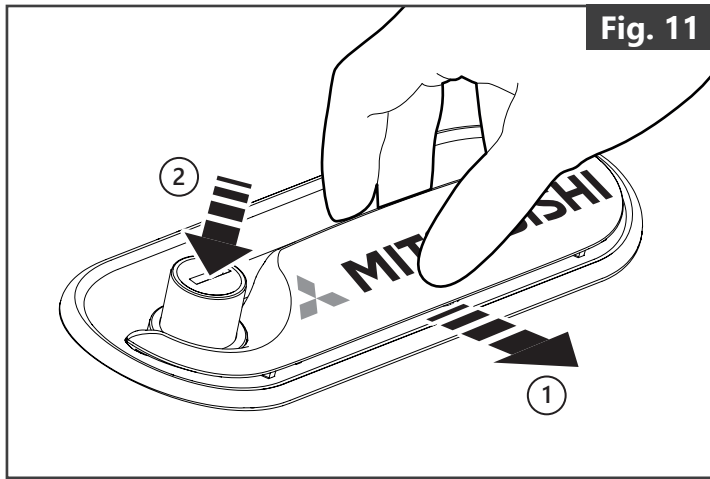

Fig. 11
- Pull back on the handle, and press down on the lock cylinder (**Fig. 11**)